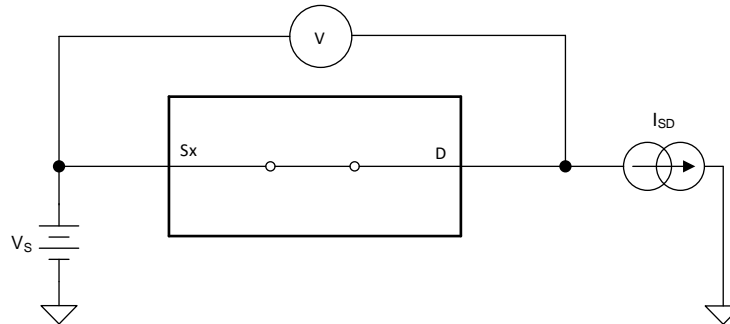

Figure 16. On-Resistance Measurement Setup
The on-resistance of a device is the ohmic resistance between the source (Sx) and drain (D) pins of the device. The on-resistance varies with input voltage and supply voltage. The symbol R_{ON} is used to denote on-resistance. The measurement setup used to measure R_{ON} is shown in Figure 16. Voltage (V) and current (I_{SD}) are measured using this setup, and R_{ON} is computed with $R_{ON} = V / I_{SD}$: